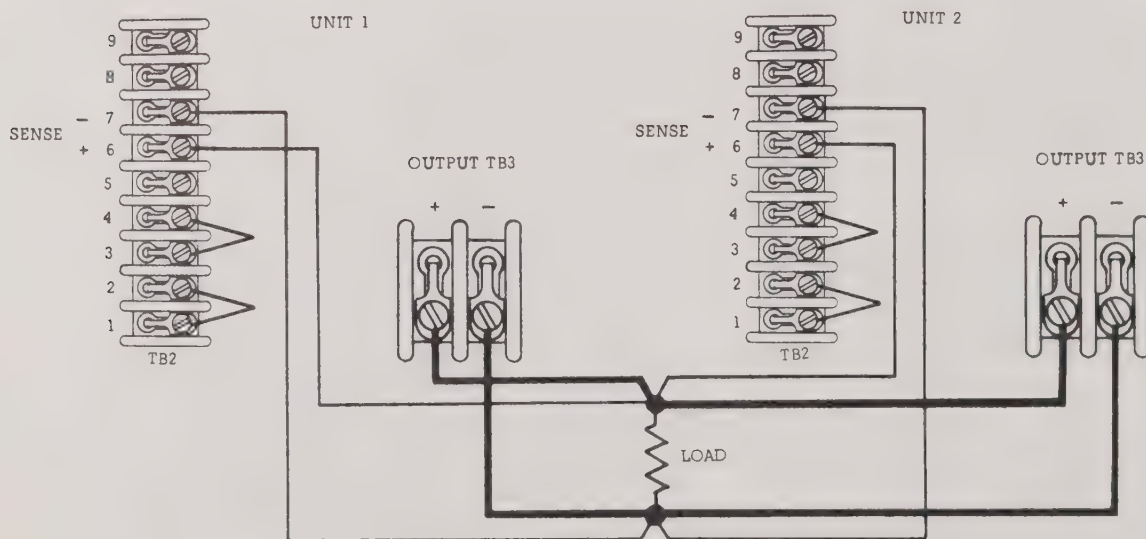

Figure 4-7. Parallel Operation (with remote sensing)
The paralleled units may be adapted for remote-sensing as illustrated in Figure 4-7. They may also be adapted for resistance or signal programming. However, none of these is required for parallel operation.
4-33. The following delineates procedures to be followed in directly paralleling two units. However, the procedures are applicable to any number of units (see representative diagram in Figure 4-7).
f. Connect output cables from each unit to load. For remote-sensing, remove local-sensing links and connect as shown in Fig. 4-7.